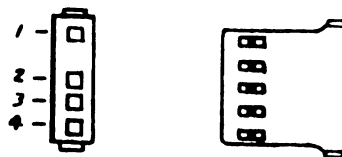

FIGURE 4-42 2260V HEAD CONNECTOR
- e. This head cable (see Figure 4-42) plugs into the 2260V disk drive heads (also, the Diablo Model 44B).
- H. Plug the head cables (Figure 4-42) into the upper head cables of the disk drive.